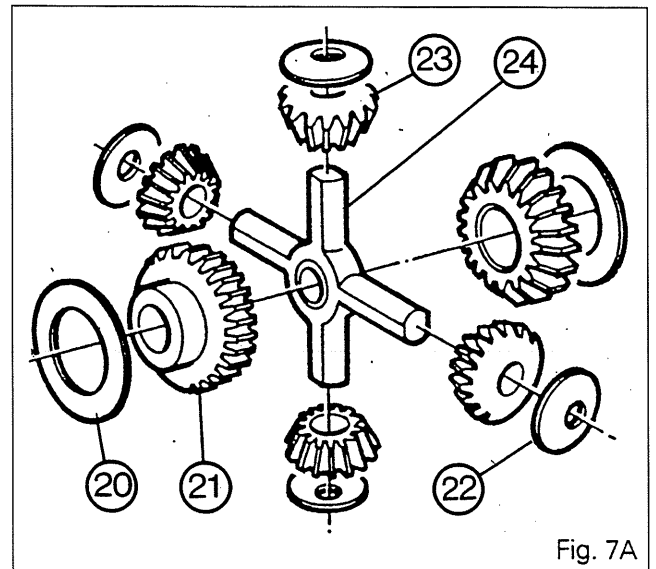

Fig. 7A
44. Extract bearing cone (28) and, if necessary, bearing cone (15). Extract the bearing cup (16).
45. Remove the bolts (27).
46. Remove the fixed coupler (26).
47. Separate the two sections of the housing (17).
48. Remove the washers (20), the sun gears (21), the planetary pinions (23), the washers (22) and the cross joint (24) (Fig. 7A).